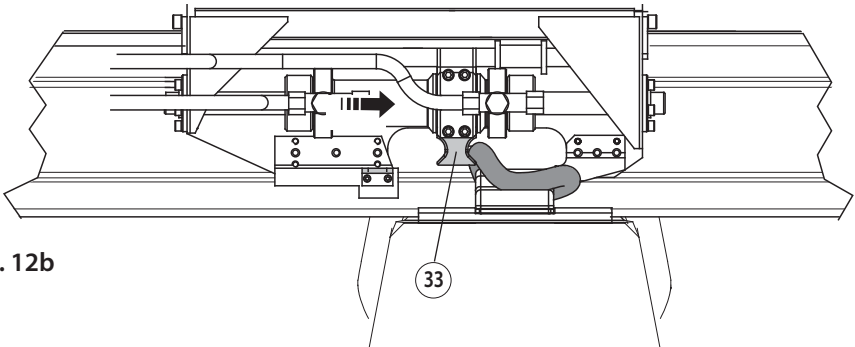

FIG. 12b
- Pull the control lever (07) to the left in "EXTRACT" position: to gradually move the teeth forwards with consequent extraction of both E clips (see Fig. 12b and 12c). When performing the extraction operation, each clamps teeth (33) will move in opposite directions.